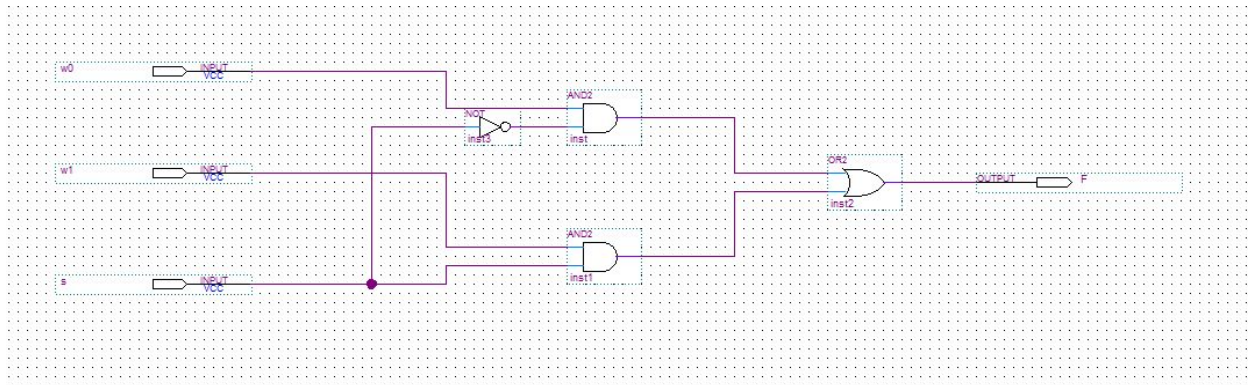
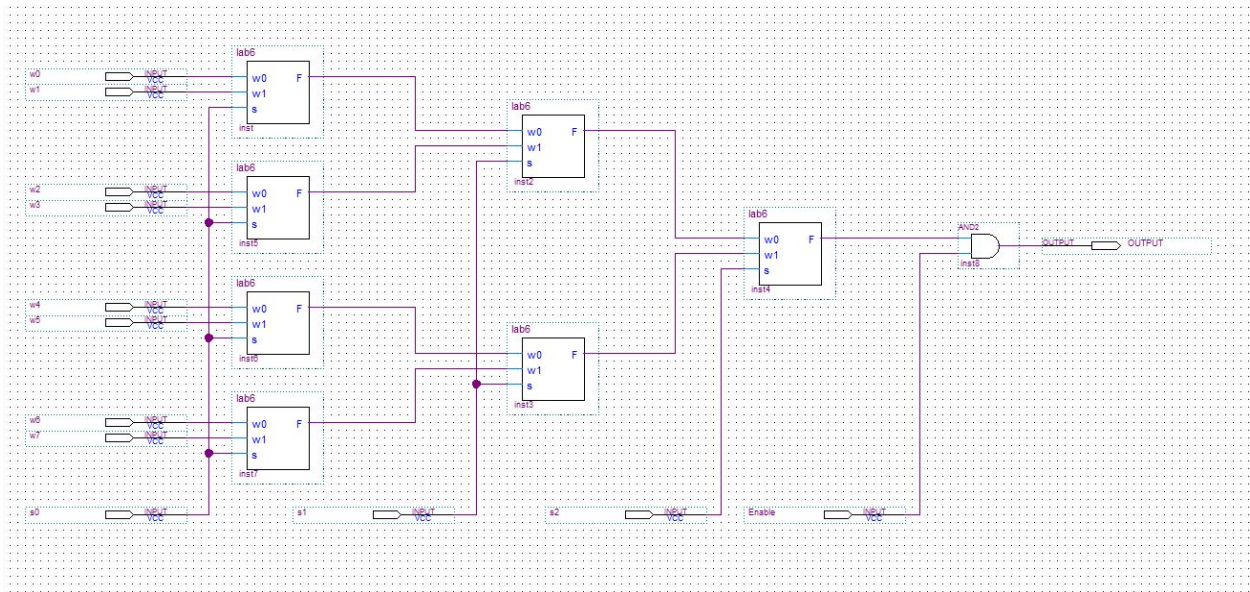

Figure 1. 2to1MUX
Figure 2. 8to1MUX
1. We built a 2to1 mux (as shown in Figure 1) and a 8to1 mux (as shown in Figure 2) based on the 2to1 mux and create a symbol for each of them to use later.